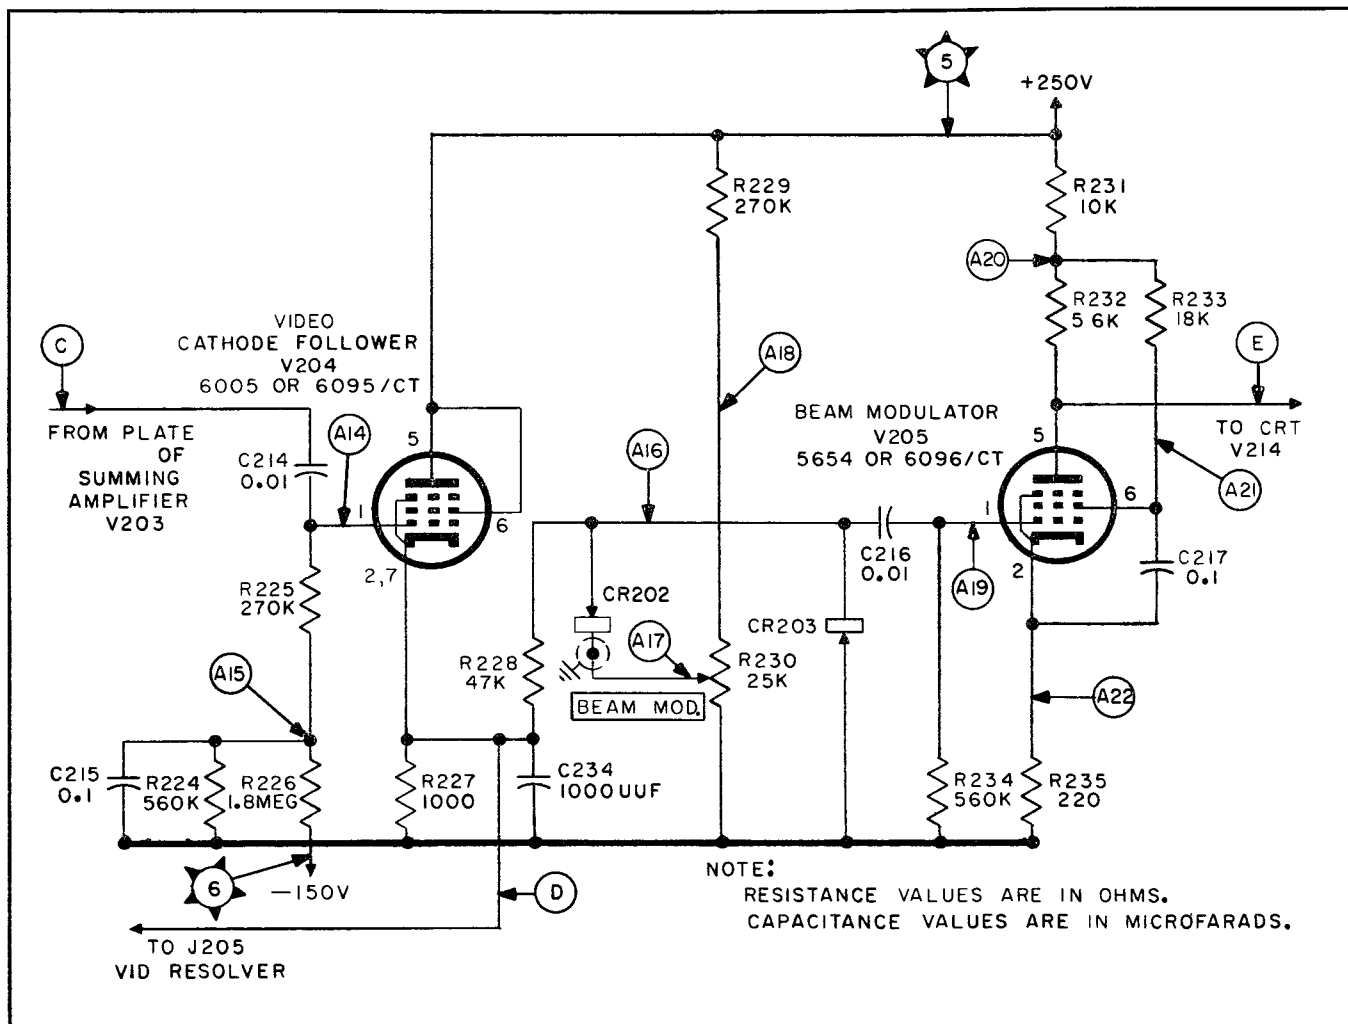

Figure 4-8. Azimuth Indicator Partial Schematic, Video Cathode Follower and Beam Modulator
- c. Video Cathode Follower and Beam Modulator (Figure 4-8).
4-27. VIDEO CATHODE FOLLOWER AND BEAM MODULATOR. (Figure 4-8.)
4-61. The cathode of the CRT is fed through C228 with beam modulation voltage derived from the beam modulator stage in the video amplifier section (figure 4-8). This is to compensate, in brightness, for the range of signal amplitudes from zero signal to signals with large amplitudes. The beam modulation voltage swings the cathode current in accordance with the strength of the signal, thereby actually changing the bias point of the CRT. An average setting of the INTENSITY control may not give a presentation bright enough for a large pattern, and would be far too bright for the center trace spot when there is no incoming signal. This variation can occur as the associated receiver is tuned, or as the antenna rotates. Too bright a spot indication can permanently damage the CRT.
intensity grid. The net effect is a decrease in the intensity grid bias for the duration of the modulating pulse. The beam modulation voltage is present only with video signal, and to the degree controlled by the operator, for the most equal brightness of the indication on the CRT screen representing varying signal amplitudes being received. The operation of the beam modulation stage is described in paragraphs 4-30 through 4-33 (figure 4-8).